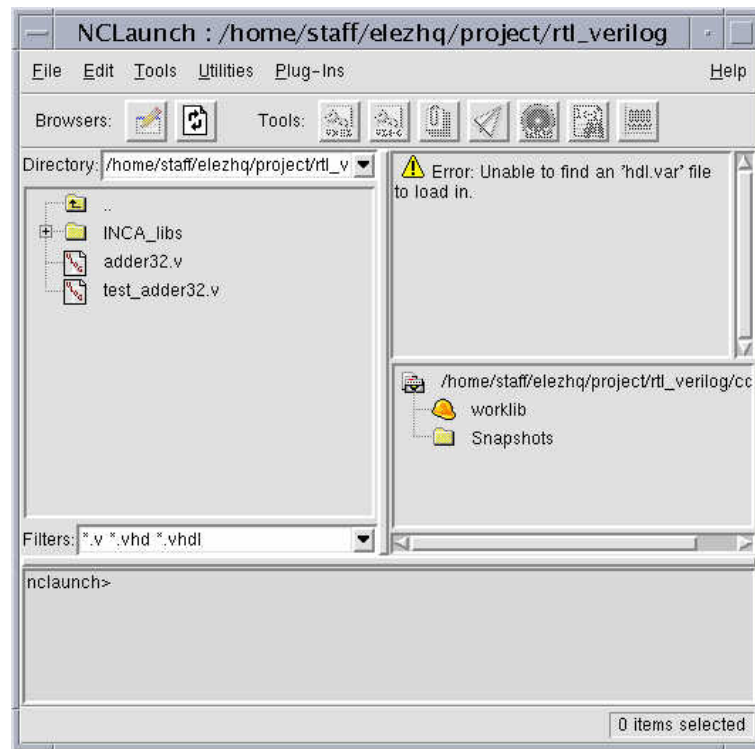

Figure 3-9 NCLaunch Main Window.
6. Click on **OK** to close the New cds.lib File form. NCLaunch displays the main window as shown in figure 3-9.